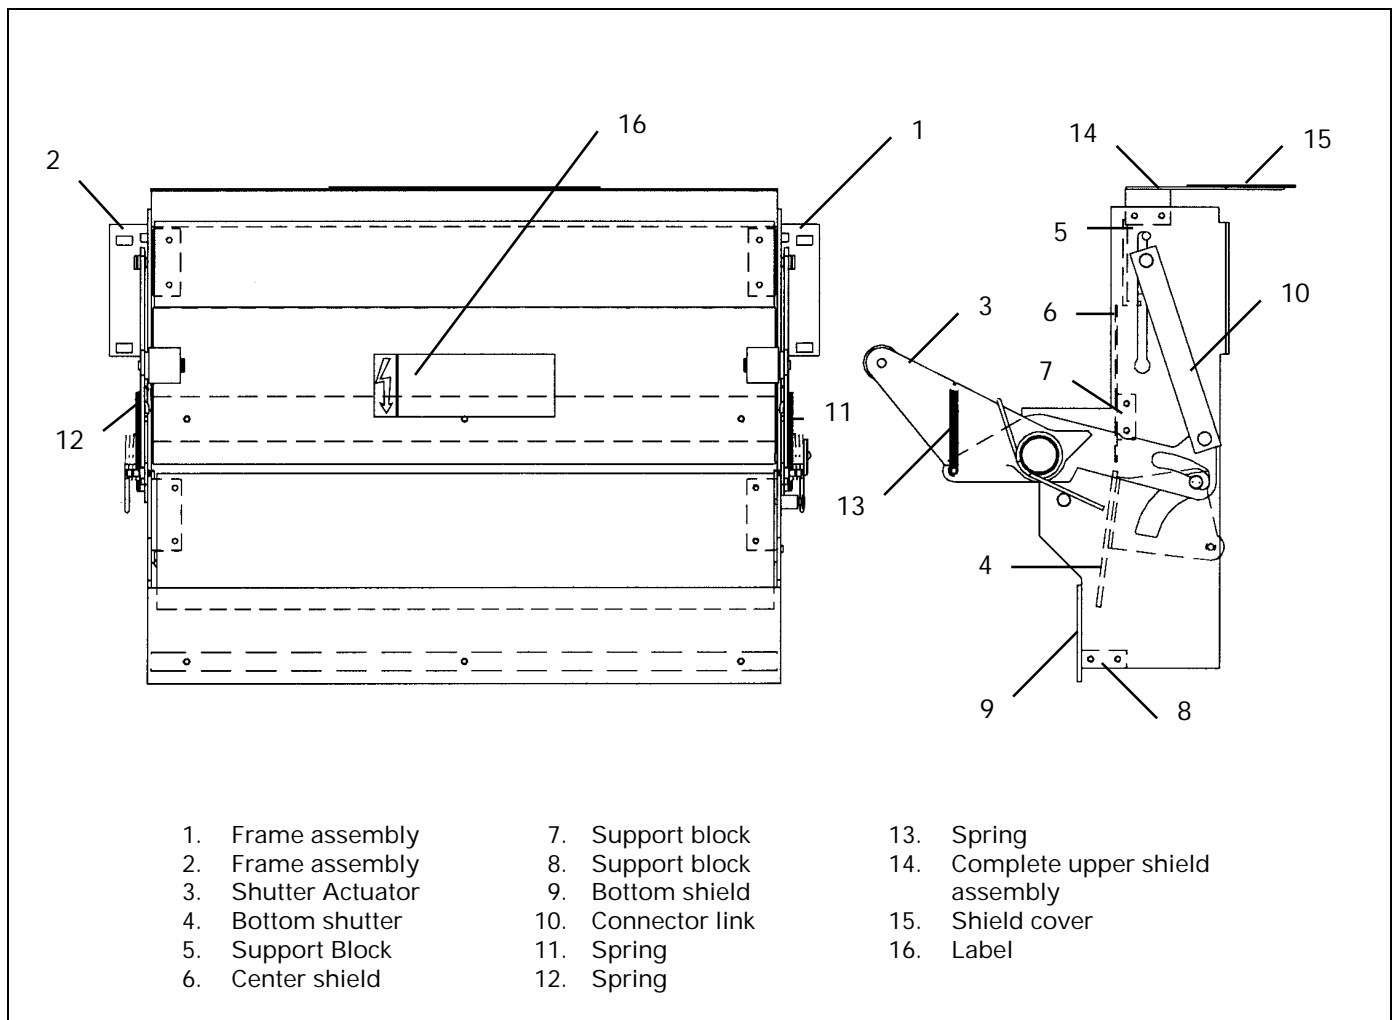

Fig. 7-9. Entellisys circuit breaker shutter unit (EGS-08/16 breakers)
1. The shutter unit frame is mounted on the vertical stringers located at each side of the rear of the breaker compartment. See Fig. 7-9. In extended compartments, the shutter is mounted to extension brackets.